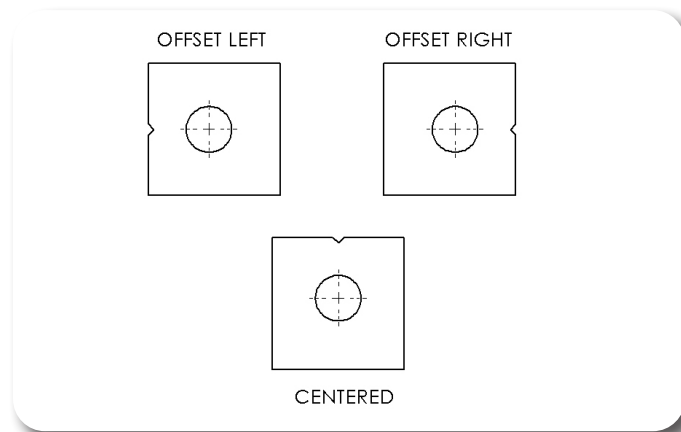

Figure 36
63. Provided cam washers allow for adjustability to compensate for frame variances. When installing cam washers determine what position fits best to your frame. Make sure whatever position the cam washer is in that the other side is opposite. For example if your frame is wide, you would offset your cam washers to the outside of the vehicle on either side. Fig. 36